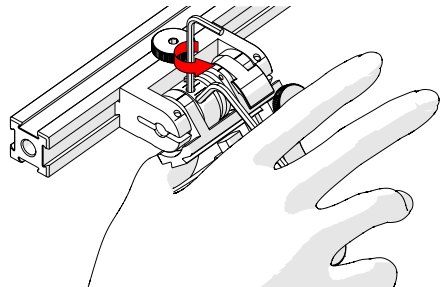

Fig. 56 - Press 3 mm hex wrench down
5. Lightly press the long arm of the 3 mm hex wrench down. Using the 2 mm hex wrench, loosen the force adjustment screw but do not remove it (Fig. 56).